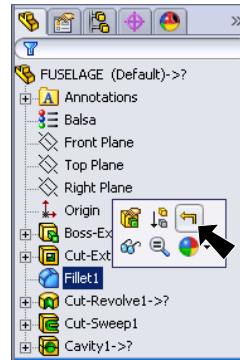

Fig. 1
Step 2. Roll the rollback bar to below the **Cut-Extrude1**. To rollback, click **Fillet1** in the Feature Manager and click **Rollback**  from the Content toolbar, **Fig. 1**.